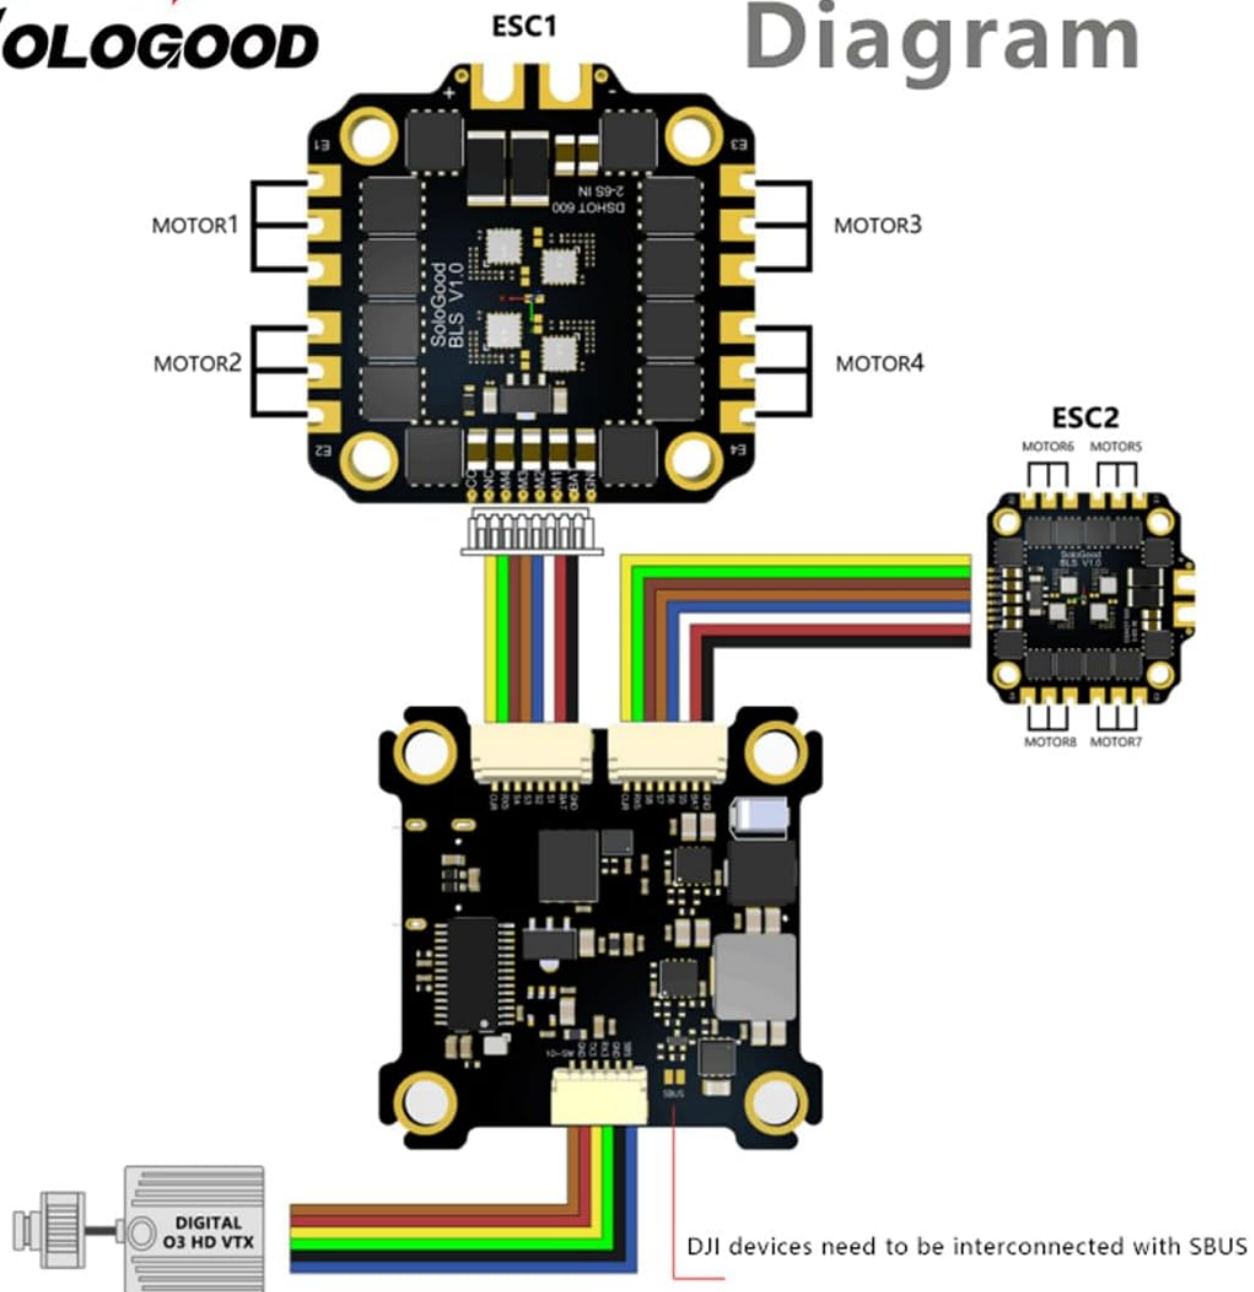

Figure 4.1: ESC Wiring Diagram. This diagram illustrates how to connect motors (M1-M8) to the 4-in-1 ESC.
- **Wiring:** Double-check all wiring connections against the provided diagrams (Figures 4.1 and 4.2) to ensure correct polarity and pin assignment.